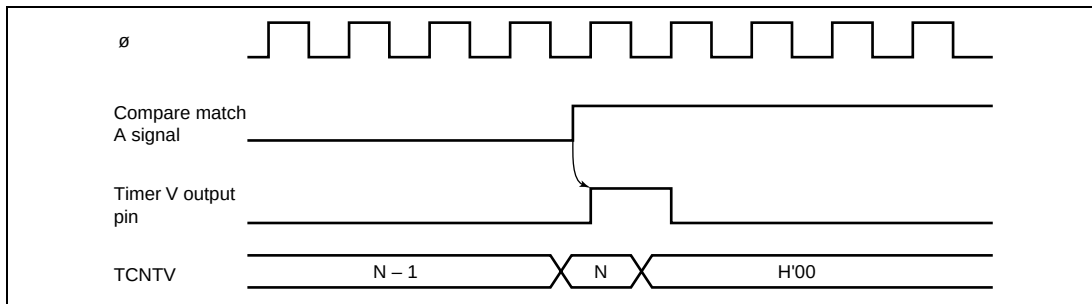

Figure 10-8 Clear Timing by TMRIV Input
6. When CCLR1 or CCLR0 in TCRV0 is 11, TCNTV can be cleared by the rising edge of the input of TMRIV pin. A TMRIV input pulse-width of at least 1.5 system clocks is necessary. Figure 10-8 shows the timing.